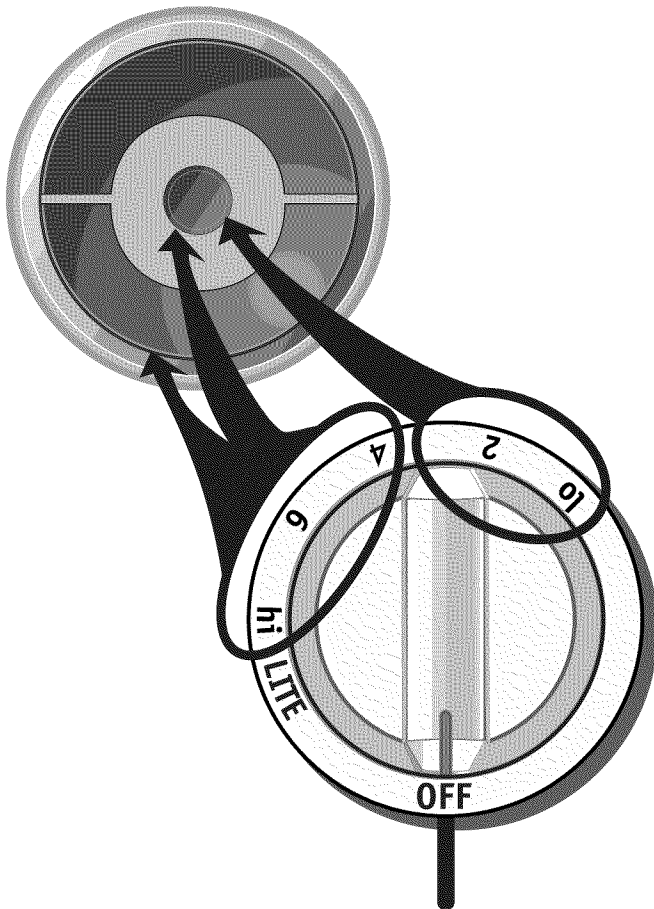

Figure 3
5. When the burner is lit, continue to turn the control knob **counterclockwise** between the "HI" position and the "4" position (figure 3) to adjust to the desired flame size for both burners together. **DO NOT** cook with any of the surface control knobs in the LITE position (The electronic ignitor will continue to spark if the knob is left in the LITE position).
5. Continue to turn the gas control knob counterclockwise past the "4" position; zone B will turn off. Adjust the simmer flame size by turning the control knob between the "4" position to the "LO" position (figure 3). **DO NOT** cook with the surface control knob in the LITE position (The electronic ignitor will continue to spark if the knob is left in the LITE position).